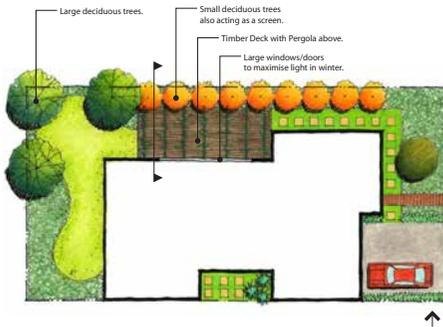

Figure 15
- Plant deciduous trees on the north and west sides of outdoor living spaces to provide summer shade and winter sun. (Refer to Figure 15 and 16.)